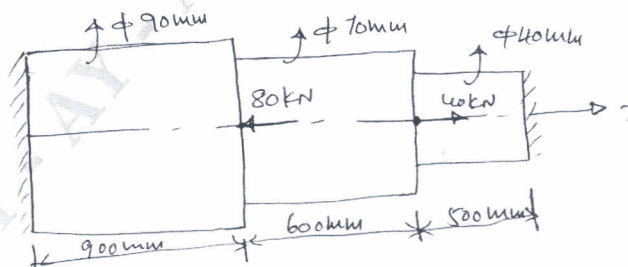

Fig.Q10(b)
- b. For a step bar as shown in Fig.Q10(b). Determine the nodal displacement, reactions at supports and stresses in each element by using elimination approach. Take $E = 2 \times 10^5$ MPa.